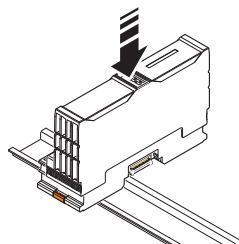

Fig. 7-8 Snapping the bus coupler on
- Place the bus coupler **vertically** on the DIN rail until it snaps into place with a click (Fig. 7-8).